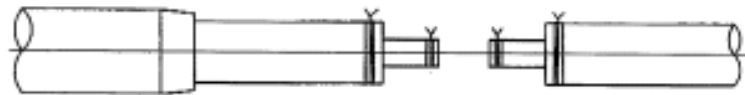
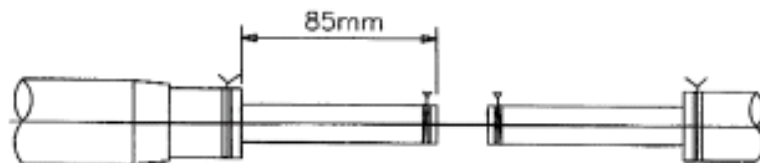
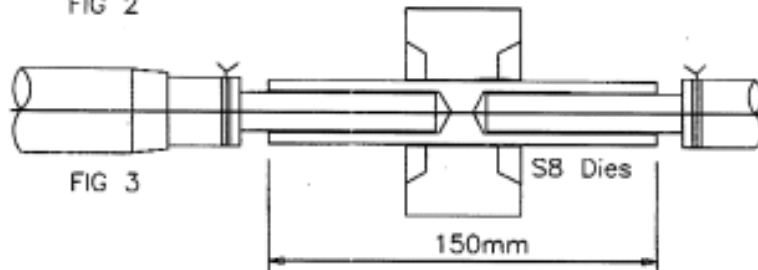
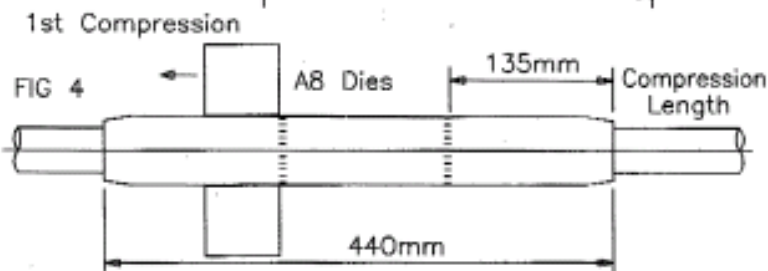

FIG 1
FIG 2
FIG 3
FIG 4
<p>1. Remove the aluminium body and steel eyebolt from sealed packing which should ensure components are clean.</p> <p>2. Examine conductor end and, if damaged, cut back and ensure it is clean and square.</p> <p>3. Bind conductor using suitable soft wire or tape approximately 30mm from end. Cut back the Aluminium strands, care being taken not to damage the steel strands. Bind the exposed steel strands using suitable soft wire or tape to prevent un-stranding (Fig.1).</p> <p>4. Thoroughly clean the aluminium strands of the conductor for a distance of at least 500mm. Remove the binding and un-strand the conductor to clean. In the case of heavily greased conductor, the grease should be removed by recommended solvent before wire brushing. For black conductor, emery cloth or a stiff wire brush should be used.</p> <p>5. Insert conductor into anchor clamp (ENSURE CORRECT POSITIONING OF FITTING MOUTH, I.E. AWAY FROM CONDUCTOR END) and slide along conductor for approximately 1 metre.</p> <p>6. Bind the conductor at a distance of 85mm from the end and cut back aluminium strands to this binding taking care not to damage the steel core (Fig.2).</p> <p>7. Mark the steel core 70mm from end (this being the bore depth of the eyebolt). Insert the steel core a minimum of 20mm into the eyebolt prior to removing the binding then insert fully up to mark on core.</p> <p>8. Using Code S8 dies compress the steel eyebolt cylindrical section starting at the toothed end and working towards the eyebolt mouth (4 compressions, using Hexagonal Die Compression) with 5mm overlap (Fig.4).</p> <p>9. Slide aluminium body over the conductor and fully home onto the eyebolt ensuring the lay of eyebolt and jumper lug are in the required plane to give correct positioning of the jumper lug. Using Code A8 dies apply one compression between the knurled marked rings between the jumper lug and eyebolt head (Fig.4).</p> <p>10. Using Code A8 dies apply one compression at the aluminium body mouth, Figure 5, and then beginning at the knurled marking ring adjacent to the jumper lug, compress towards the mouth with 10mm overlaps until the entire compression length has been covered (3 compressions using Hexagonal Die Compression).</p> <p>11. For assembly of jumper terminal ensure conductor end is square and clean. Thoroughly clean conductor by wire brushing as per instructions. Mark conductor 100mm from end of conductor this being the bore depth of the jumper terminal. Insert conductor fully into jumper terminal. Using Code A8 dies compress the jumper terminal cylindrical section starting at the palm end knurled mark. Repeat with a 10mm overlap until all of the terminal body is compressed. (see Fig.6), 2 compressions using Hexagonal Die Compression.</p> <p>12. Any sharp flashes shall be removed, with a file, after compression.</p> <p>13. To assemble jumper terminal to anchor clamp, first thoroughly wire brush contact faces of jumper lug and terminal 'palm through approved base grease. Ensure correct orientation of jumper terminal. Use bolts, washers and nuts provided and ensure all nuts are tightened down firmly (67Nm minimum.)</p>
<p>Assembly Method for Hexagonal Die Compression (AA150/175 – Wolf/Lynx) Tension Joints Ref 226/11</p> <p>For Diagrams See TD226/11A</p> <ol style="list-style-type: none"> 1. Remove aluminium and steel sleeves from sealed packing which should ensure components are clean. 2. If either of the conductor ends are damaged. Cut back and ensure ends are clean and square. 3. Insert one end of conductor into aluminium sleeve and pass through. Slide aluminium sleeve down conductor for a minimum of 1metre. 4. Bind both conductor ends using suitable soft wire or tape a distance of 30mm from the conductor end and cut back outer aluminium strands, taking care not to damage steel core. Bind steel core to prevent un-stranding, Fig.1. 5. Bind both conductor ends at a distance of 85mm from the conductor end and cut back aluminium strands to this binding taking care not to damage the steel core, Fig.2. 6. Thoroughly clean the aluminium strands of both conductors for a distance of at least 500mm. Remove the binding and un-strand the conductor to clean. In the case of heavily greased conductor, the grease should be removed by recommended solvent before wire brushing. For black conductor emery cloth or stiff wire brush should be used. 7. Mark the steel core 70mm from the end (this being the bore depth of the steel sleeve) and insert fully both pieces of conductor a minimum of 20mm before removing binding and then insert to the marks. Using Code S8 dies compress the steel sleeve, the first compression to be central on the sleeve, then alternate sides with 5mm overlap per compression until the entire sleeve length is compressed (9 compressions using Hexagonal Die Compression; Fig.3). 8. Mark one of the conductors 225mm from the centre of the steel sleeve. Slide the aluminium sleeve over both conductors until this mark is reached when the aluminium sleeve covers both the conductors equally. At one end, using A8 dies apply the first compression at the knurled marked ring. Compress over the compression length with 10mm overlap (3 compressions using Hexagonal Die Compression). This process is then repeated for the uncompressed side of the joint; Fig.4. <p>ELECTRICAL RESISTANCE TESTS</p> <p>The electrical resistance of each part of the completed assembly shall be measured by a suitable approved instrument. The electrical resistance of such fittings shall not exceed 75% of an equivalent length of conductor.</p>
5. Fit liner over conductor ensuring it is pushed firmly up to the insulation and that the conductor is flush with the end of the liner (see Fig.1).
6. Mark the insulation 90mm from the end of the conductor (see Fig.1) and insert into the lug up to or beyond the 90mm mark (see Fig.2).
7. Using Code A8 Dies compress the lug barrel, starting at the palm end knurled mark, then 10mm overlap until all of the lug body is compressed (see Fig. 3) ; 2 compressions using Hexagonal Die Compression.
- (3) Fully insert the conductor into the fitting and compress starting against the knurling for the full compression length; with a 5mm overlap between "bites", See Figure 2 on TD226/40A.
- (4) Repeat instructions (2) and (3) for the second end.